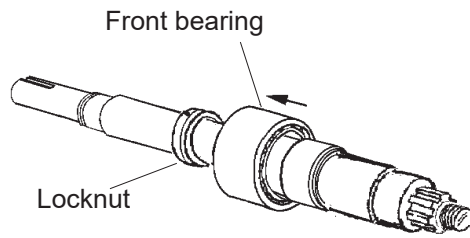

Figure 28
5. Lubricate the inner races and press the new bearings onto the shaft. Tighten the locknut on the front bearing to 40 ft-lb (54 N·m) (Figure 28).